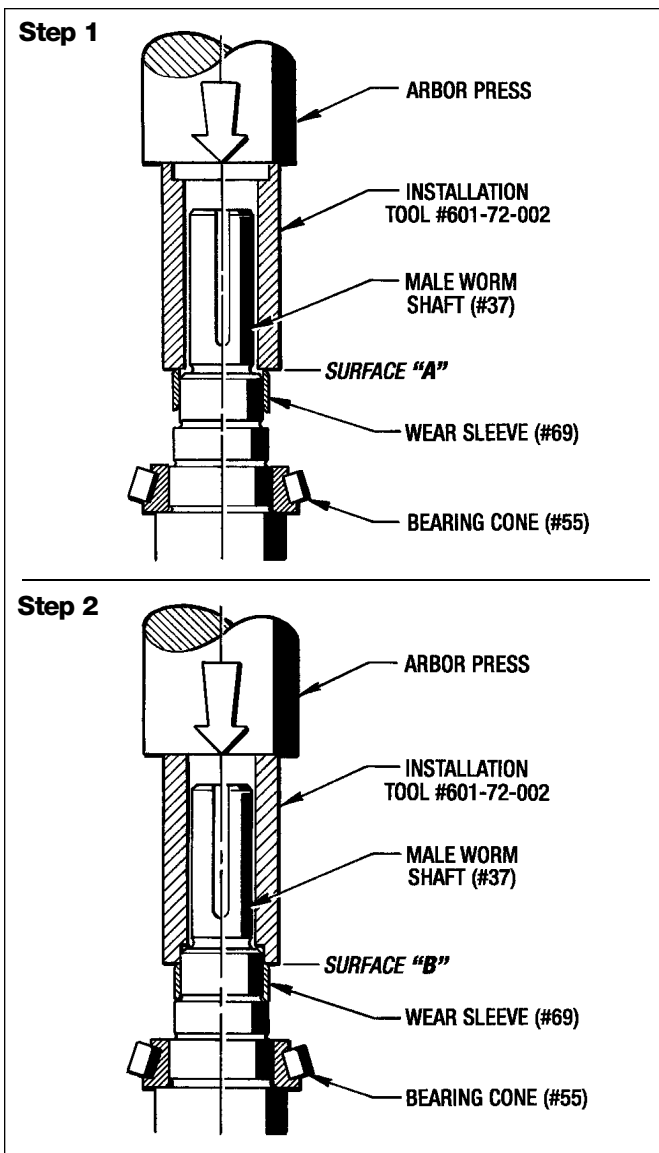

Figure 7.11 - Installing Wear Sleeve on Male Worm Shaft
7. Place the Worm Shaft in an arbor press as shown in Figure 7.11. **Step 1** - Press the Wear Sleeve (#69) on to the Worm Shaft with **Surface "A"** of the Installation Tool. **Step 2** - Turn the Installation Tool over and with **Surface "B"** finish pressing the Wear Sleeve on the Worm Shaft until it bottoms out on the shaft shoulder.